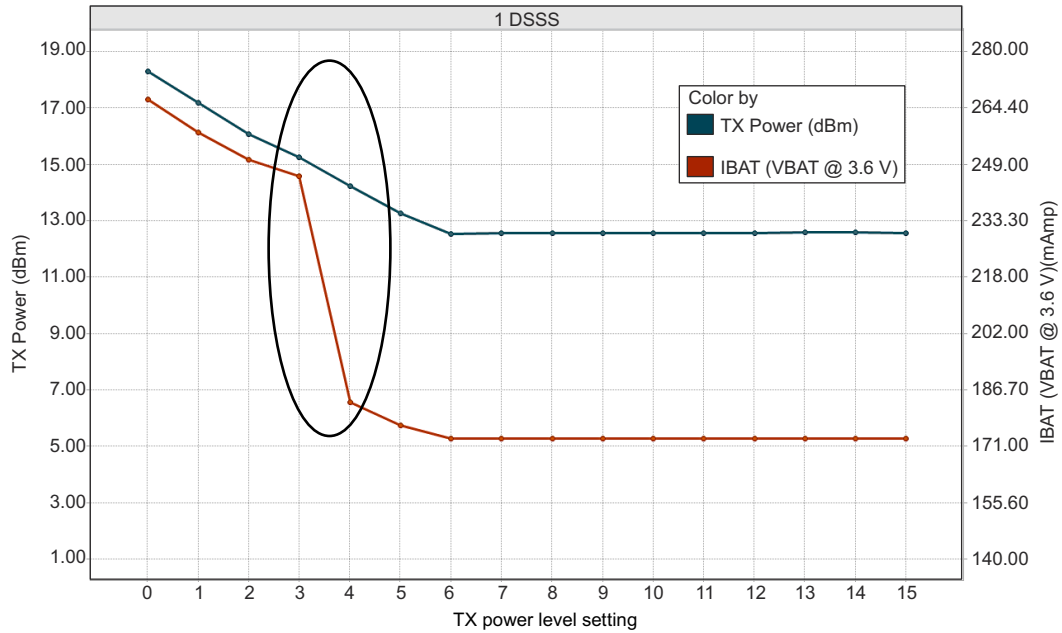
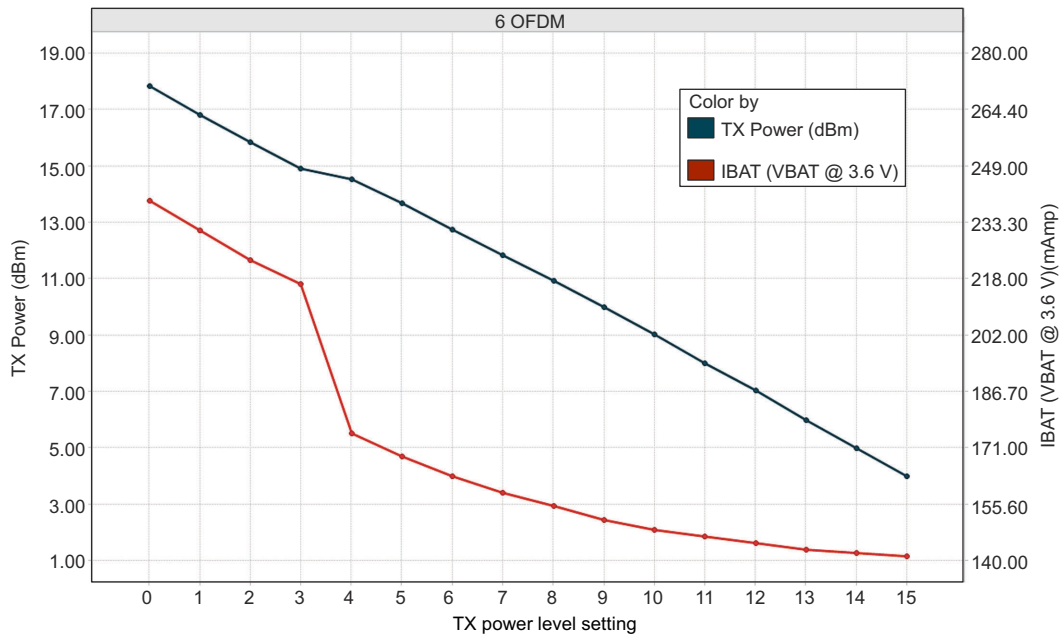

Figure 7-1. TX Power and IBAT vs TX Power Level Settings (1 DSSS)
Figure 7-2. TX Power and IBAT vs TX Power Level Settings (6 OFDM)
- (1) TX power level = 0 implies maximum power (see 図 7-1, 図 7-2, and 図 7-3). TX power level = 4 implies output power backed off approximately 4 dB.
- (2) LPDS current does not include the external serial flash. The LPDS number of reported is with retention of 256KB of MCU SRAM. The CC3230x device can be configured to retain 0KB, 64KB, 128KB, 192KB, or 256KB of SRAM in LPDS. Each 64-KB block of MCU retained SRAM increases LPDS current by 4 μA.
- (3) DTIM = 1
- (4) The complete calibration can take up to 17 mJ of energy from the battery over a time of 24 ms. In default mode, calibration is performed sparingly, and typically occurs when re-enabling the NWP and when the temperature has changed by more than 20°C. There are two additional calibration modes that may be used to reduced or completely eliminate the calibration event. For further details, see *CC31xx, CC32xx SimpleLink™ Wi-Fi® and IoT Network Processor Programmer's Guide*.
- (5) The CC3230x system is a constant power-source system. The active current numbers scale based on the V_{BAT} voltage supplied.
- (6) Typical numbers assume a VSWR of 1.5:1.
- (1) TX power level = 0 implies maximum power (see Figure 7-1, Figure 7-2, and Figure 7-3). TX power level = 4 implies output power backed off approximately 4dB.
- (2) LPDS current does not include the external serial flash. The LPDS number of reported is with a retention of 256KB of MCU SRAM. The CC3230x device can be configured to retain 0KB, 64KB, 128KB, 192KB, or 256KB of SRAM in LPDS. Each 64-KB block of MCU retained SRAM increases LPDS current by 4µA.
- (4) The complete calibration can take up to 17 mJ of energy from the battery over a period of 24 ms. Calibration is performed sparingly, typically when coming out of HIBERNATE and only if the temperature has changed by more than 20°C. The calibration event can be controlled by a configuration file in the serial flash.
- (5) Typical numbers assume a VSWR of 1.5:1.
Figure 7-1, Figure 7-2, and Figure 7-3 show TX power and IBAT versus TX power level settings for the CC3230S device at modulations of 1 DSSS, 6 OFDM, and 54 OFDM, respectively. For the CC3230SF device, the IBAT current has an increase of approximately 10mA to 15mA depending on the transmitted rate. The TX power level will remain the same.
In Figure 7-1, the area enclosed in the circle represents a significant reduction in current during the transition from TX power level 3 to level 4. In the case of lower range requirements (14dBm output power), TI recommends using TX power level 4 to reduce the current.